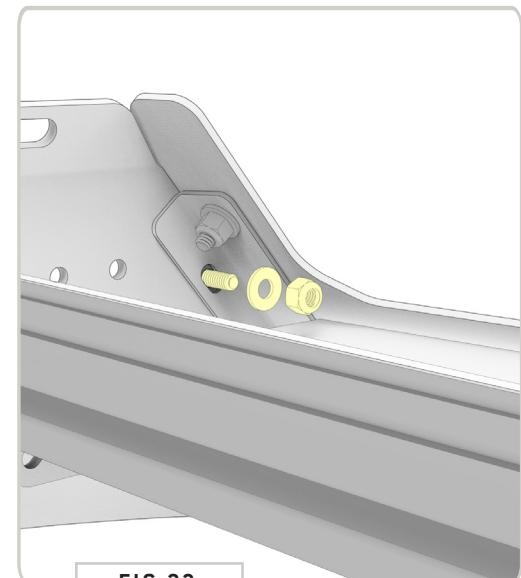

FIG 23
6.3 Tighten Fairing to Side Rails: Tighten down the fasteners holding the **Fairing Assembly** to the **Side Rails** (**FIG 23**).